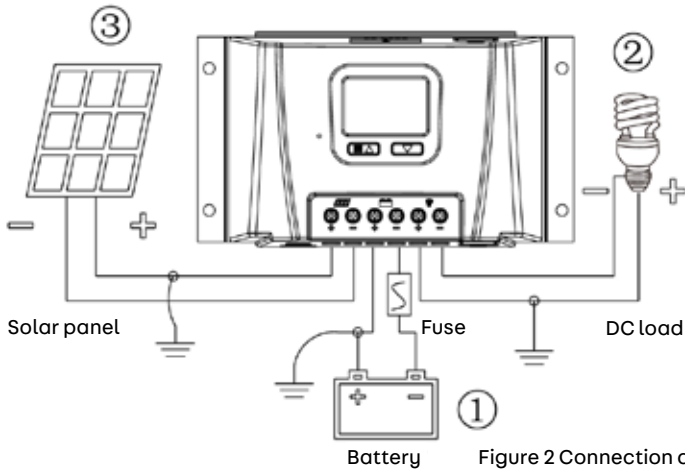

Figure 2 Connection diagram
(1) Connect the components to the charge controller in the order shown above and pay special attention to the "+" and "-". Please do not insert the fuse or switch on the circuit breaker during installation. The sequence is retained when the unit is switched off (see Figure 2).
(2) Check that the LCD display is switched on after switching on the controller. Otherwise, please read the Troubleshooting chapter on page 9. Always connect the battery first, so that the controller can detect the system voltage.
(3) The battery fuse should be installed as close to the battery as possible. The recommended distance is 150 mm.
(4) The controller of this series is a positive earthed controller. Any positive connection of a solar panel, load or battery can be earthed if required.